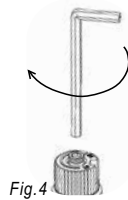

Fig.4
- 18) Using the Allen wrench as shown in Fig.4, rotate the screw clockwise until snug. Do not overtighten.